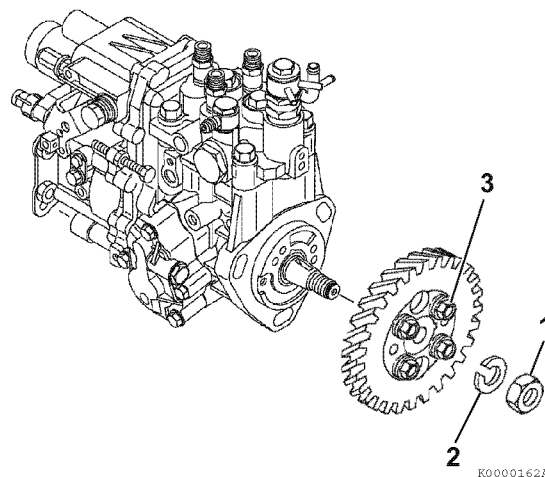

Figure 6-92
4. Do not remove the fuel injection pump drive gear unless absolutely necessary to avoid damage to the gear or pump. Do not loosen or remove the four bolts (3, **Figure 6-92**) retaining the pump drive gear to the hub. Only remove the nut (1, **Figure 6-92**) and washer (2, **Figure 6-92**), leaving the hub attached to the gear. Remove the pump drive gear and hub as an assembly using a gear puller.